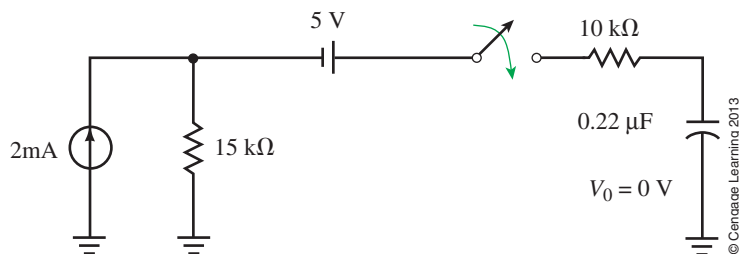

FIGURE 11-69
51. The switch of Figure 11-69 is closed at $t = 0$ s. Using PSpice, plot voltage and current waveforms. Use the cursor to determine v_C and i_C at $t = 10$ ms.